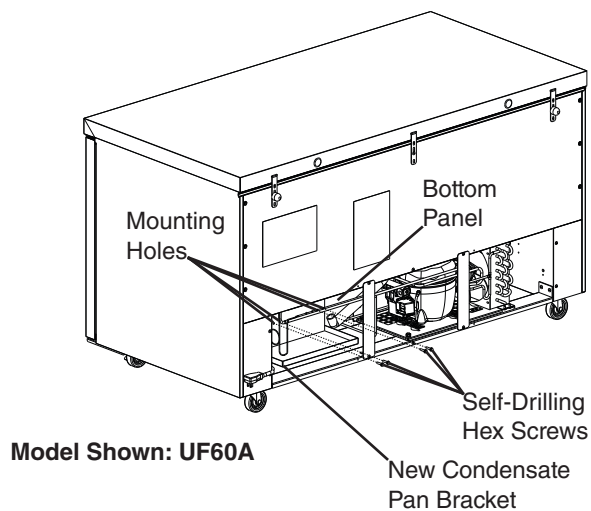

Fig. 10
6) Using the self-drilling hex screws, secure the condensate pan bracket to the mounting holes on the bottom panel. See Fig. 10.